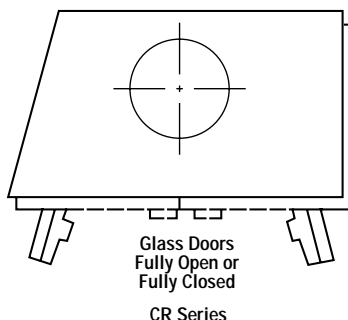

Figure 2
**WARNING: THE CR SERIES FIREPLACES SHOULD BE OPERATED WITH THE DOORS FULLY OPEN OR FULLY CLOSED. IF THE DOORS ARE LEFT PARTIALLY OPEN, GAS AND FLAMES MAY BE DRAWN OUT OF THE OPENING, CREATING RISKS OF BOTH FIRE AND SMOKE. REFER TO FIGURE 2 FOR PROPER OPERATING CONDITIONS.**